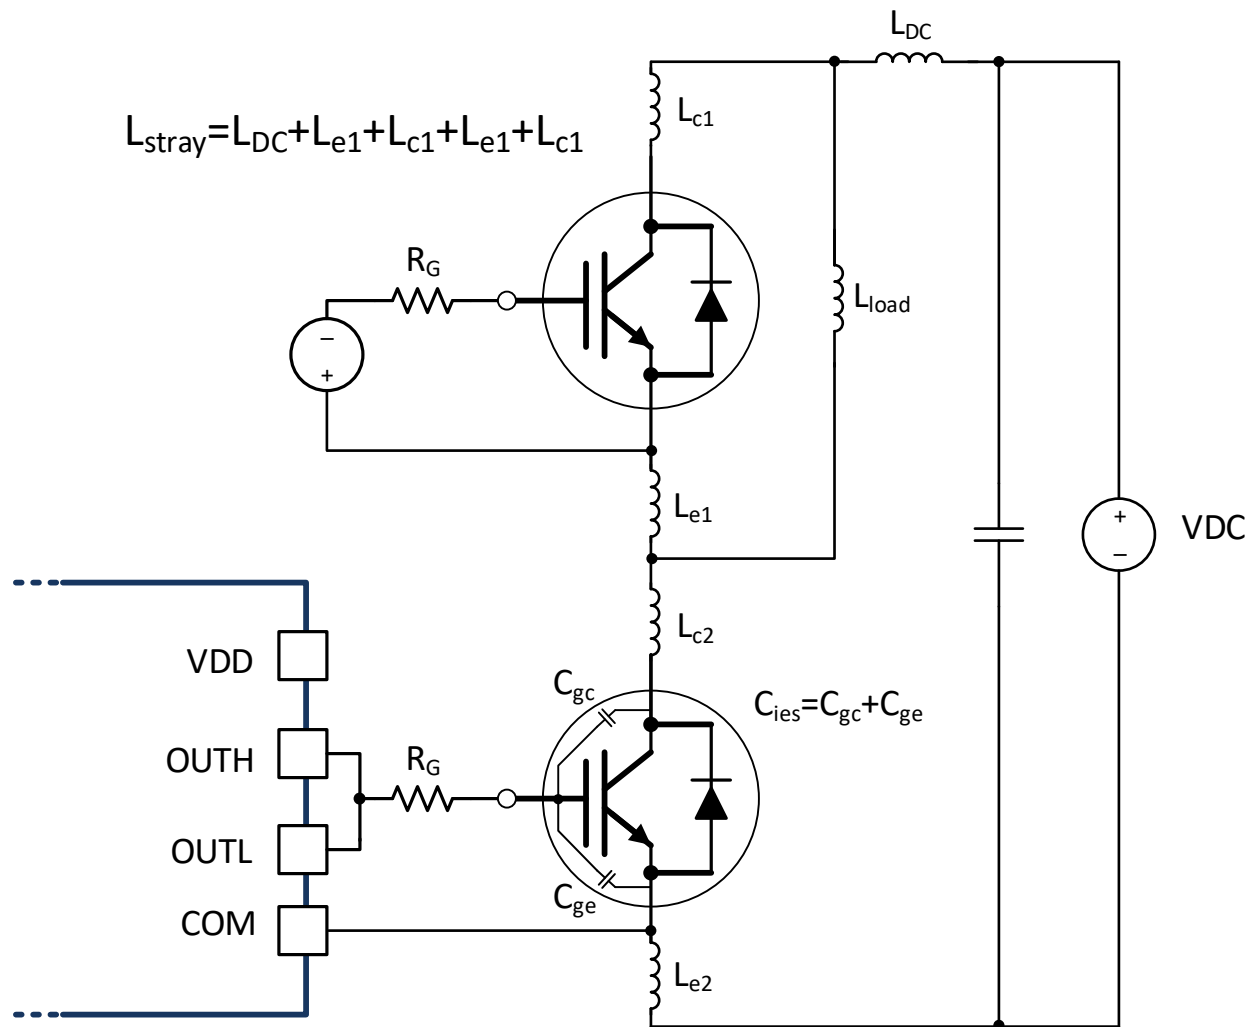

图 49. Stray Parasitic Inductance of IGBTs in a Half-Bridge Configuration
- L_{stray} is the stray inductance in power switching loop, as shown in 图 49